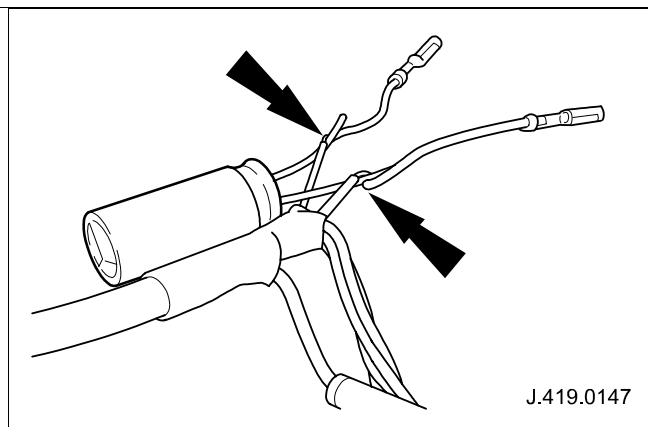

Fig. 5
- 9 Spiral wrap exposed electrical wire of black cable one turn around end of capacitor short leg (negative) and exposed electrical wire of red cable one turn around end of capacitor long leg (positive). (See Fig 5)